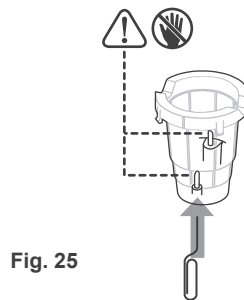

Fig. 25
3. If the two bottom Needles are clogged, then use a paper clip or tooth brush to clean the Needles, and rinse with warm water. (Fig. 25)
**CAUTION:** There is a sharp Needle underneath the Cover and two sharp Needles inside the Red Cup Holder. To avoid risk of injury and do not put your fingers in the Red Cup Holder. (Fig. 25)